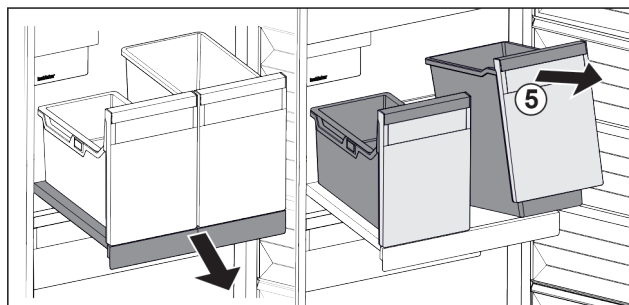

Fig. 138
- ▶ Lift the container Fig. 138 (5) at the front.